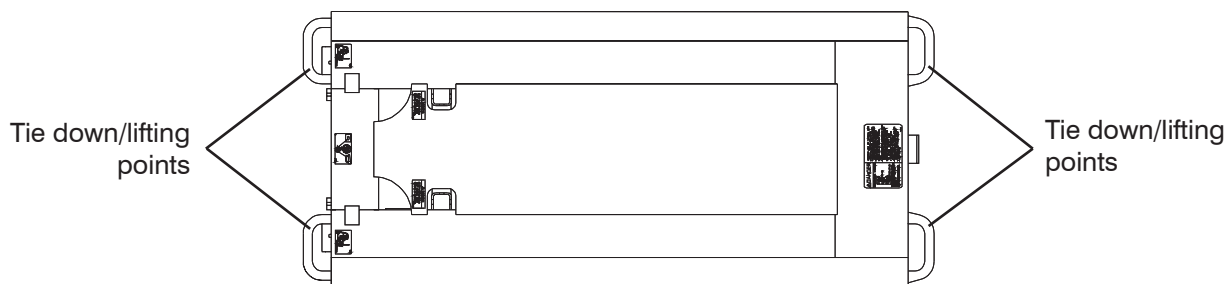

Figure 3-14. Tie Downs/Lifting Points
- The lifting/rigging must be attached to all four lifting points as illustrated in Figure 3-14.
When transporting, the aerial platform must be secured to the truck or trailer deck. Tie downs are available as illustrated in Figure 3-14.